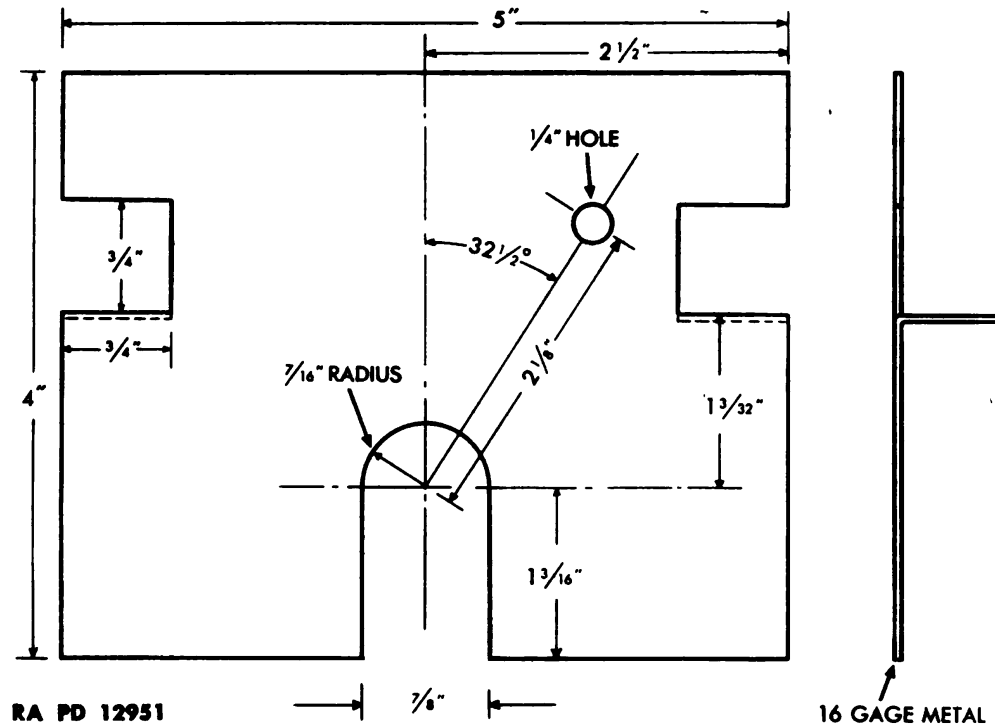

Figure 178—Template for Setting Starting Valves
(1) CUT TEMPLATE FOR ACCURATE POSITIONING OF CROSS SHAFT LEVER (fig. 178).